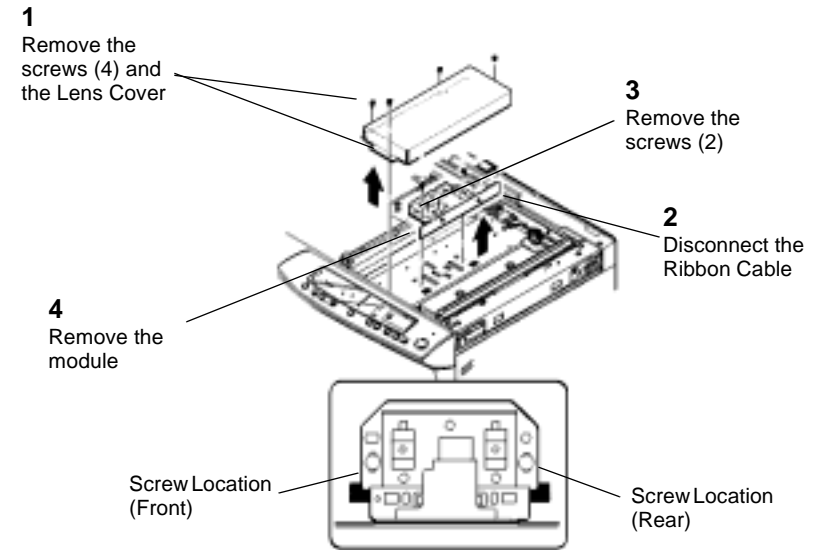

Figure 1 Removing the Lens/CCD Module
3. (Figure 1): Remove the Lens/CCD Module.